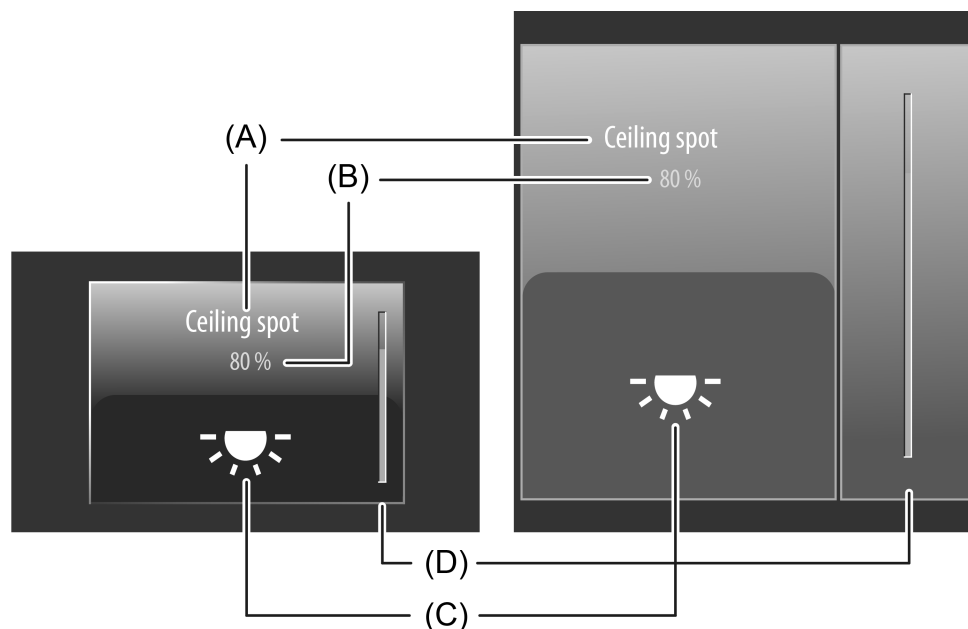

Figure 40: Example of an operating and display element of the channel function "1-byte value transmitter"
The display area contains different display elements (figure 40) that are influenced by ETS parameters. A name can be assigned to each KNX channel in the ETS (A). This text name is centred in the display element for display whereby controllable KNX functions are identified for the user (e.g. "ceiling spot"). In addition, a status value (B) can be displayed below the name, which displays values in plain text ("0...255" / "0...100 %") depending on the object value of the value feedback of an actuator. The data format of this status value indicator is determined by the ETS "Function" parameter. In the function as "Value transmitter 0%...100%", the displayed value is supplemented automatically by the unit "%". After a device reset, the display shows "---" / "---%" until a feedback object value of the status text is received.